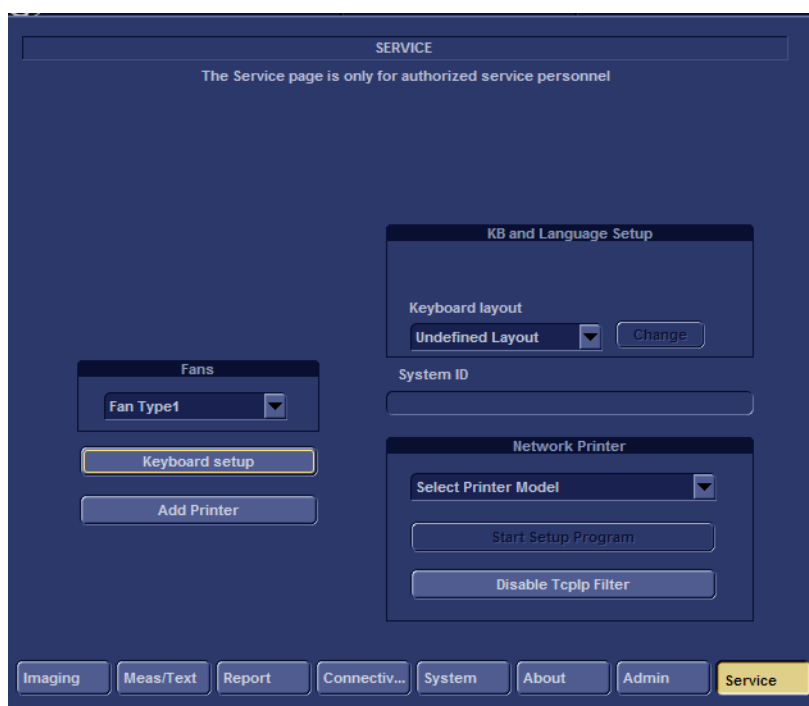

Figure 3-79 Service Screen (Example)
- 2.) Select **SERVICE** to view the Service Screen, see Figure 3-79 below.